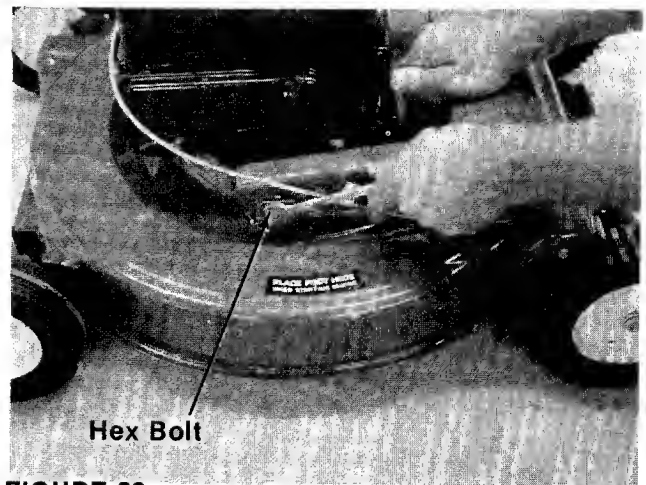

FIGURE 20.
1. Loosen (do not remove) the hex bolt on each side of the pinion pivot plate. See figure 20.